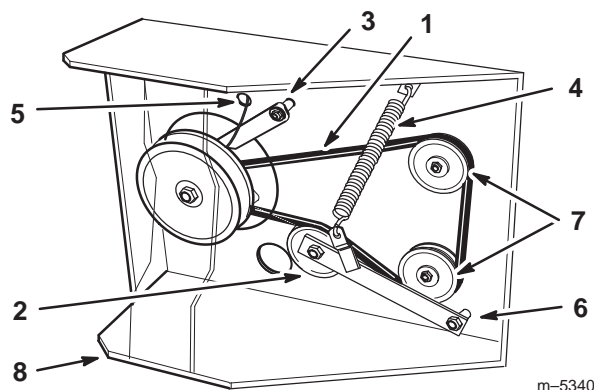

Figure 63
4. Remove clutch retainer from the engine deck (Fig. 63).
5. Unhook tension spring from side of frame (Fig. 63).
8. Torque pivot bolt to 35-40 ft. lb. (47-54 N.m). Install tension spring between idler arm and frame bracket (Fig. 63).
9. Install clutch retainer to the engine deck (Fig. 63).